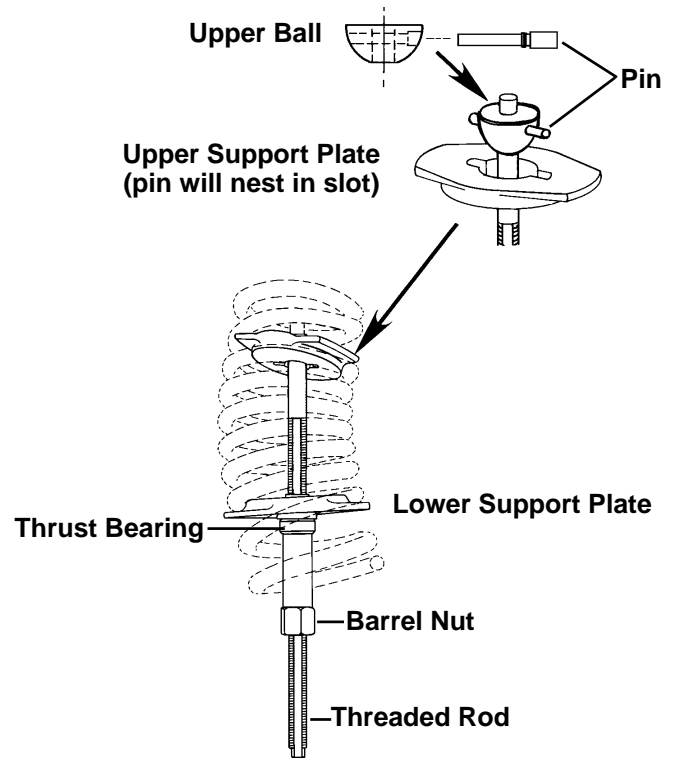

Figure 1
4. Install the first support plate (#7 or #8) midway in the spring with the ball cavity positioned UP. See Figure 1.